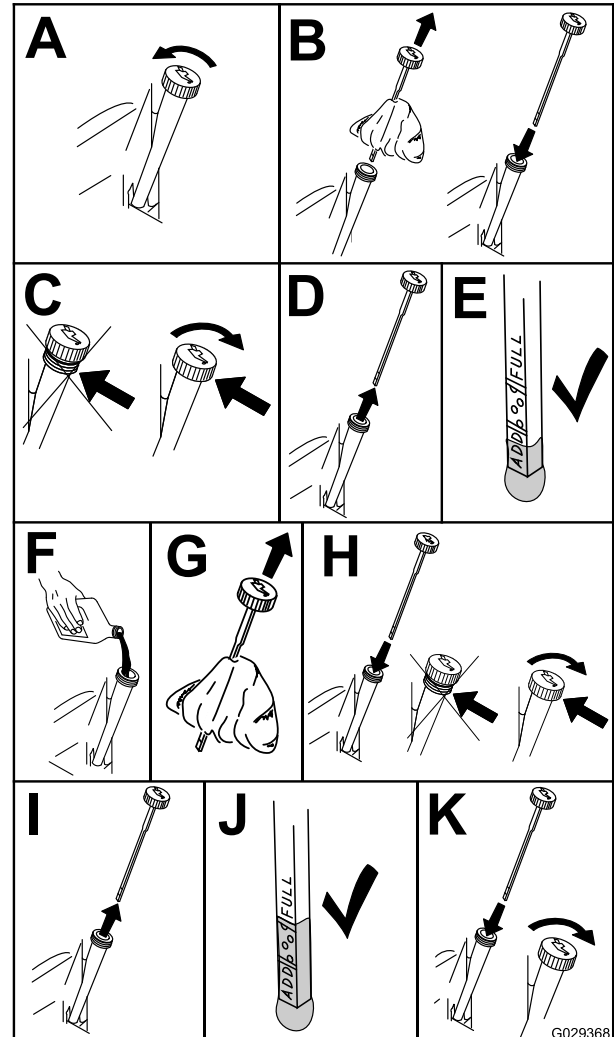

Figure 49
3. To keep dirt, grass clippings, and other debris out of the engine, clean the area around the oil-fill cap and dipstick before removing it (Figure 49).